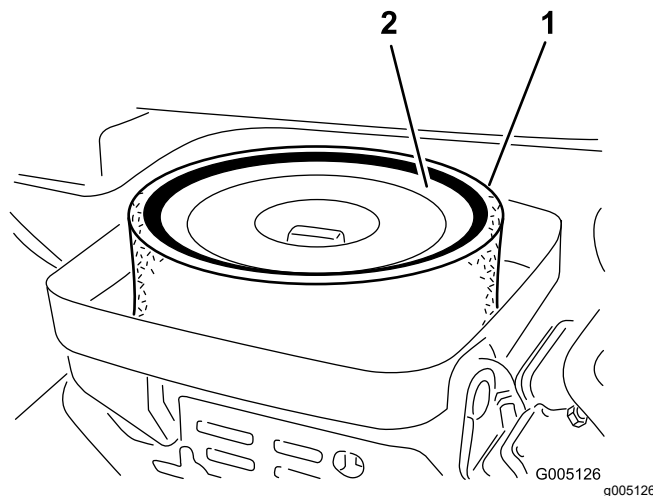

Figure 40
3. Remove the wing nut securing the elements to the air-cleaner body (Figure 40).
4. If the foam element is dirty, remove it from the paper element (Figure 40). Clean it thoroughly, as follows: